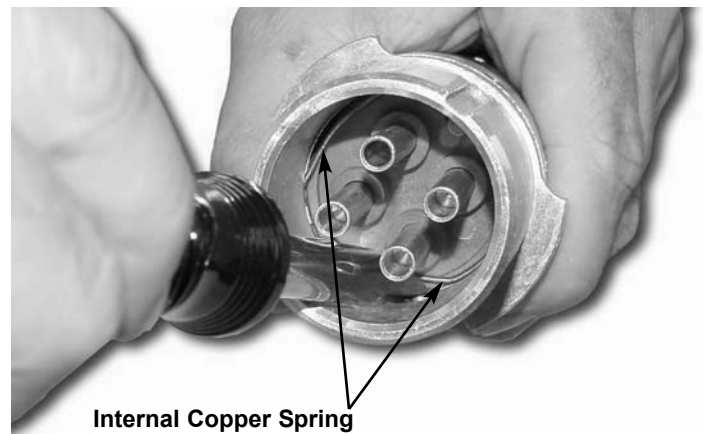

Figure 2
2. Remove the internal copper spring retaining ring from the groove as shown in Figure 2.